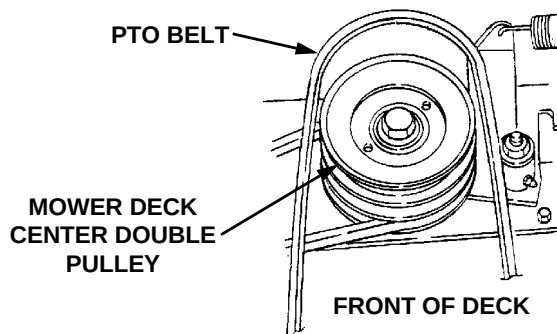
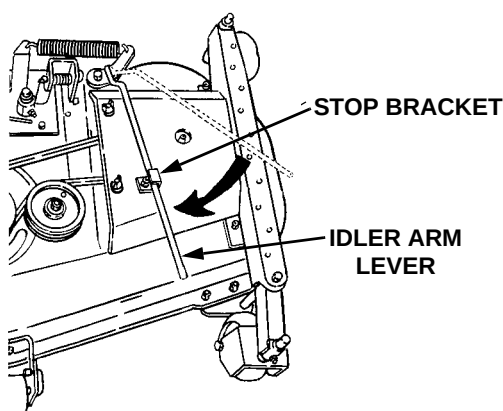

Figure 43
Figure 44
4. Remove the rearward end of the PTO belt from the upper pulley of the deck center double-pulley (Refer to Figure 43). Engage the deck idler arm lever back into its stop bracket (See Figure 44).